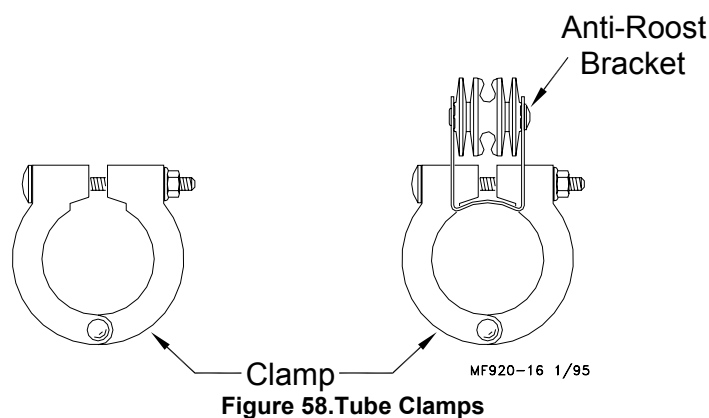

Figure 58. Tube Clamps
4. Place a Tube Clamp Assembly or Clamp/Anti-Roost Bracket at each joint. **Figure 58** shows the standard Clamp and Clamp/Anti-Roost Bracket.